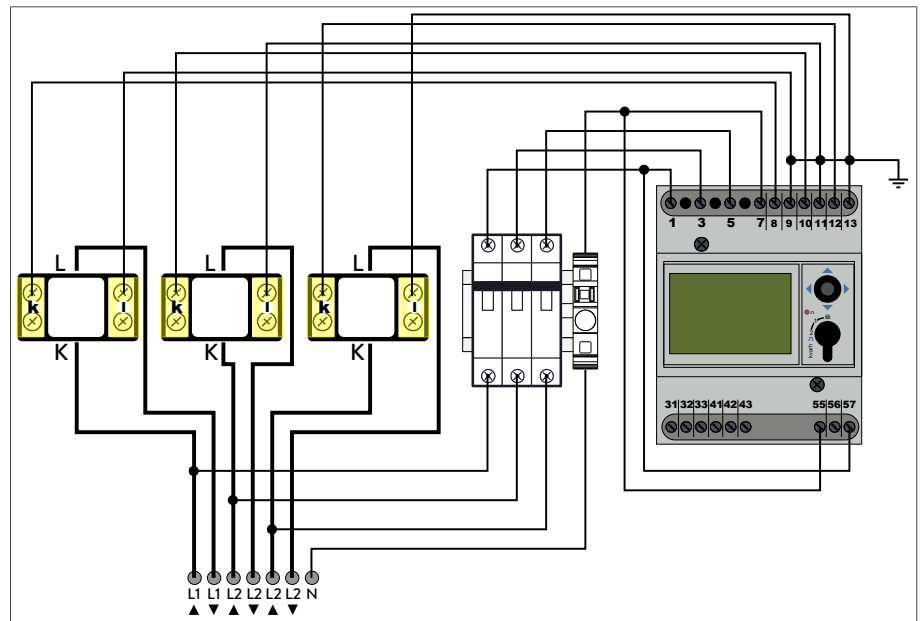

Figure 29: Connecting WM10 and current transformers
► Connect the power meter and the current transformers as shown in Figure 29. The transformer shown here is an example of a type of current transformer. Take note of the description of that particular item.